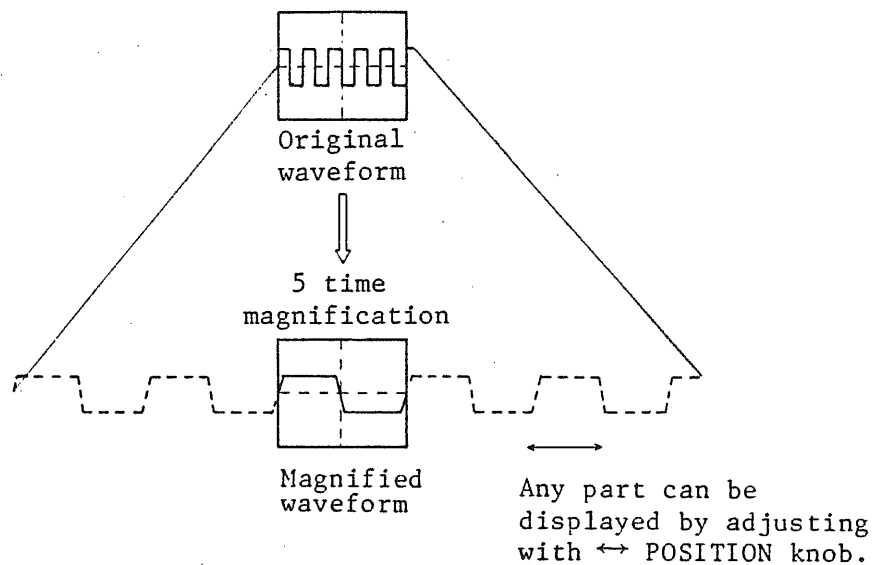

Figure 9
When a small part of the input signal waveform is required to be enlarged for observation of details, a faster sweep speed may be used. However, if the part to be enlarged is apart from the start of the sweep, the part may run out of the screen. In such a case, by pulling out the HORIZONTAL POSITION knob (31) for 5 × MAG, the displayed waveform can be magnified by 5 times to right and left from the center of the screen as shown in Figure 9.